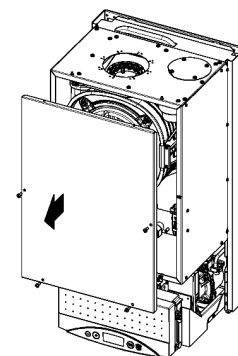

Fig. 2
6. Remove the front cover of the combustion chamber (fig. 2).